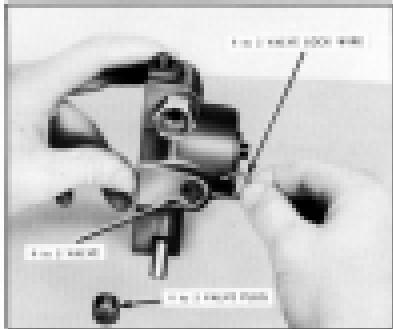

Fig. 419. Removing 4 in 3 Valve Lock Wire.
8. Remove pipe plug and lock wire holding 4 in 3 valve in place. (Fig. 419)